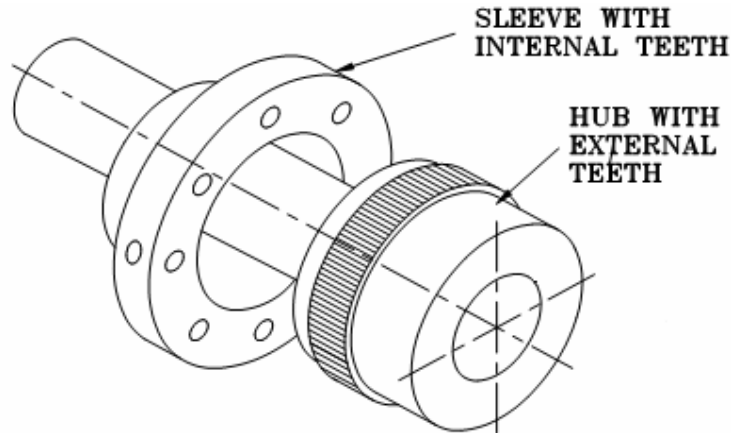

Fig. 1
2. Mount the hubs with external teeth on their respective shafts flush with the faces of hubs as shown in Fig. 1